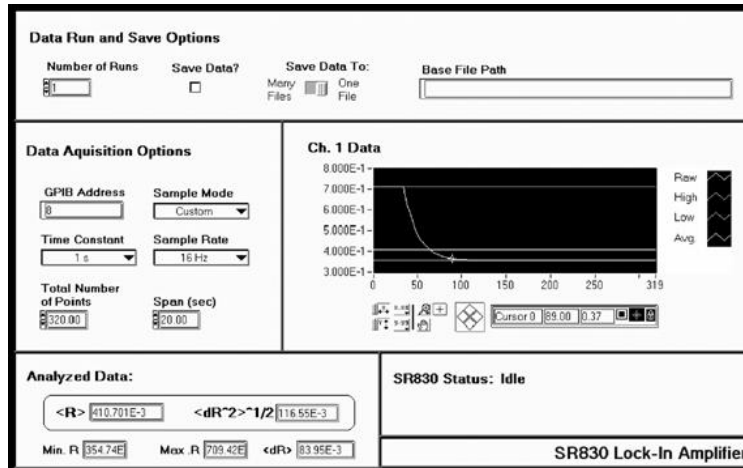

Figure 10: The output of the program
8. A second or two after the program begins acquiring data, change the amplitude of the input sine wave to $0.02 V_{pp}$. To do this quickly, input the new value for the amplitude on the function generator before you start the run, but wait to press the units button (i.e. [Hz/ V_{pp}]) until you're ready (the function generator won't make any changes until everything's specified). The following Figure 10 shows what the output of the program might look like.